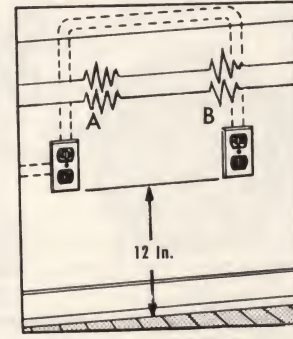

FIG. 69—CABLE THROUGH ATTIC
**CABLE THROUGH ATTIC.** Fig. 69 illustrates how cable is run through attic. Use this method where the floor boards can be lifted easily in the floor above. After cutting openings for A and B, bore holes through partition from floor above and drop cable down to receptacle openings. If necessary, use string, wire and fish tape, as previously explained.